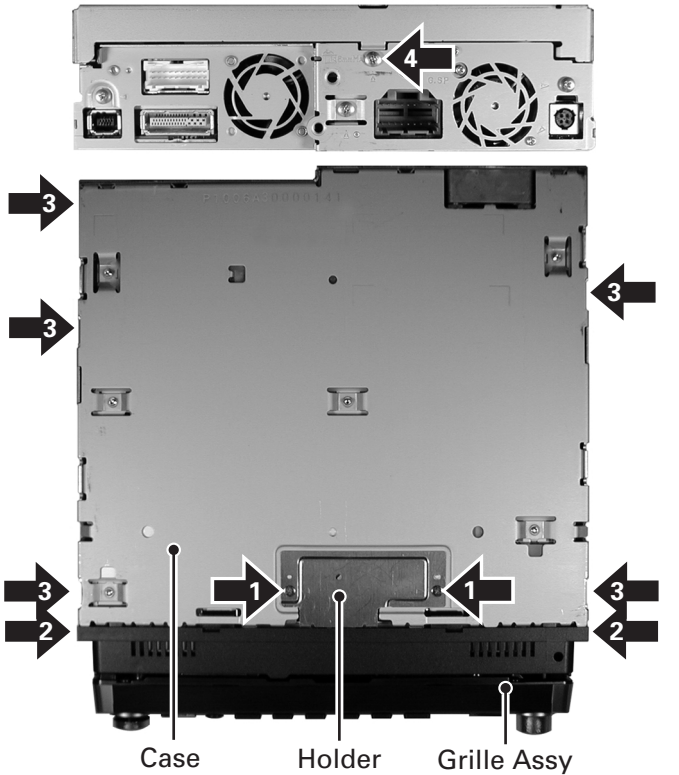

Fig.1
#### ● Removing the Grille Assy (Fig.1)
- ➡ 3 Remove the five screws.(Fig.1)
- ➡ 4 Remove the screw and then remove the Case.(Fig.1)
Remove the Case.(Fig.1)